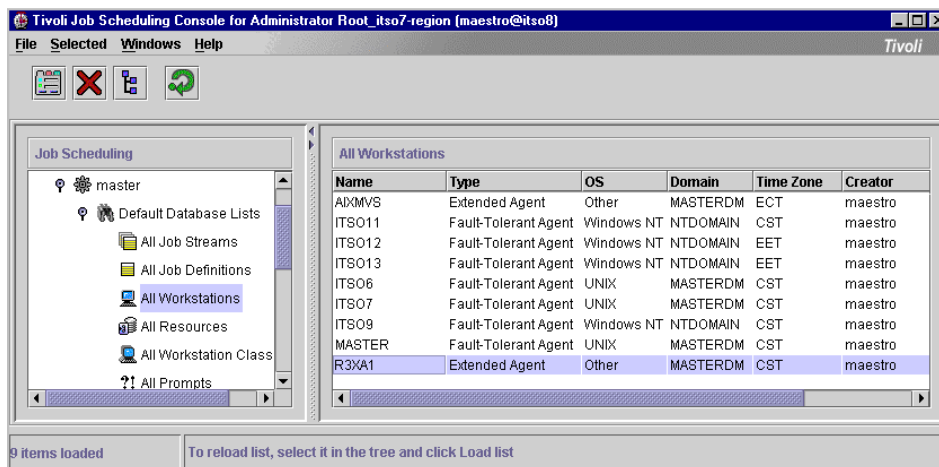

Figure 99. Displaying the newly-defined SAP R/3 Extended Agent Workstation
4. In the All Workstations window, shown in Figure 99, you can see the newly-defined SAP R/3 Extended Agent Workstation.